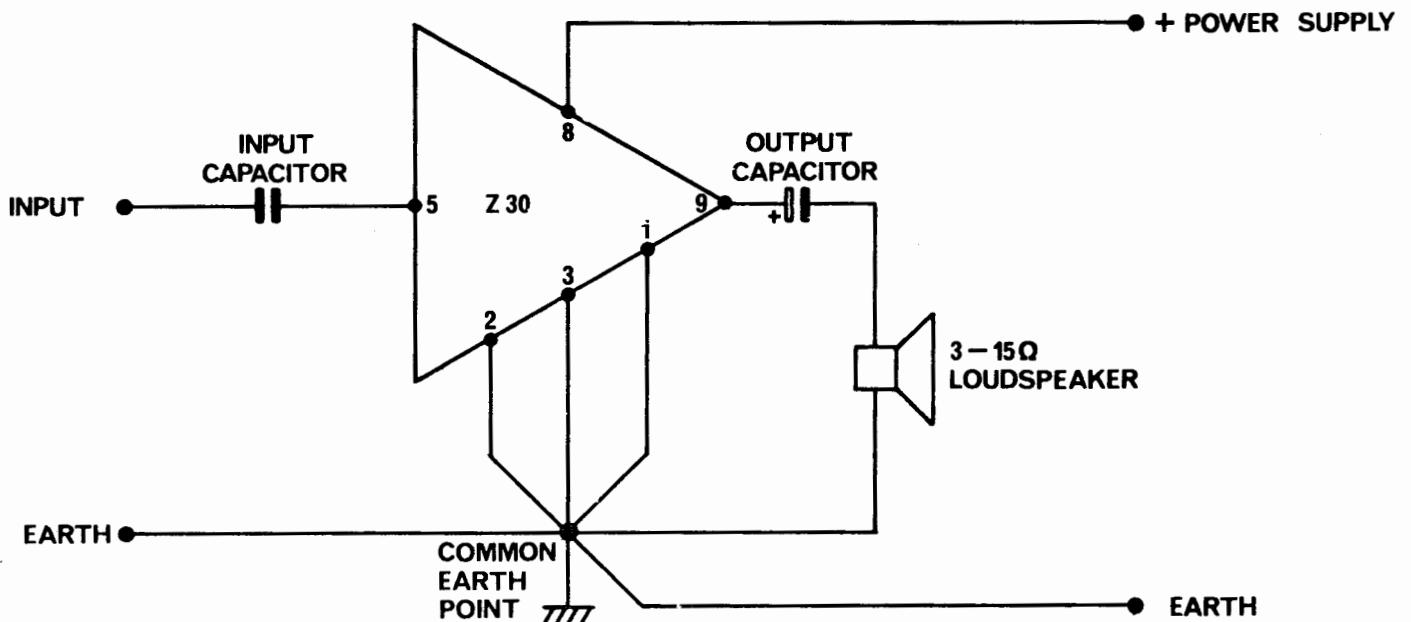

Fig. 4.11.1
If only one Z30 is used a short length of wire can be used to strap directly together terminals ①, ② and ③ and this 'point' now becomes the earth point. This is illustrated in fig. 4.11.1 which shows the basic connections necessary to the Z30 for normal use.
The capacitor is to be connected in series with the live loudspeaker lead as shown in fig. 4.11.1.